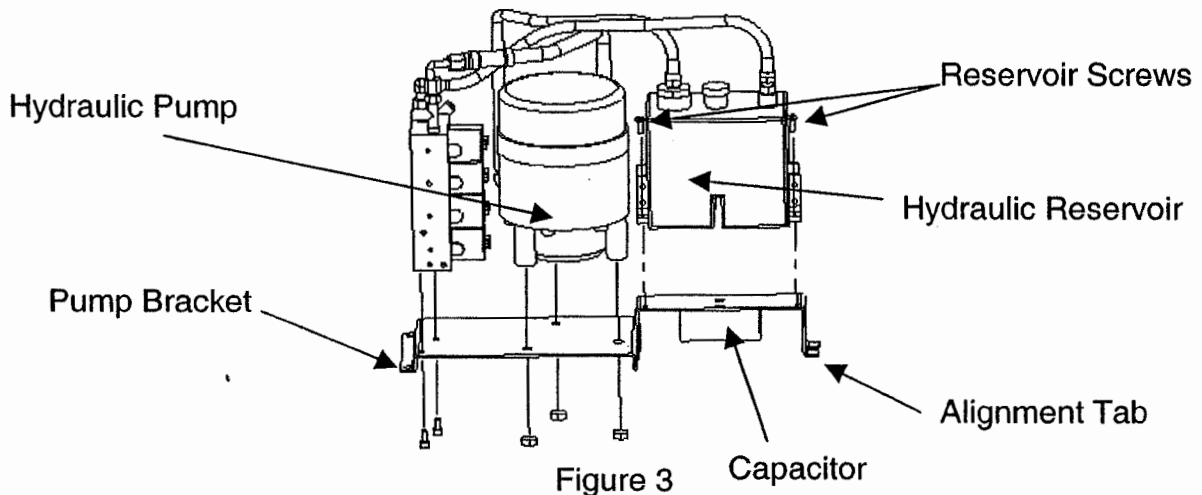

Figure 3
4. Using #2 phillips screwdriver with 8" blade, remove and save the two screws securing the hydraulic reservoir. (see Figure 3)
5. Using diagonal cutters, remove and discard the zip tie securing the electrolytic capacitor. (see Figure 3 for capacitor location)